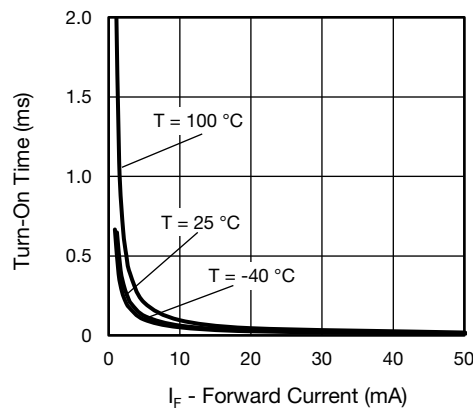

Fig. 4 - Dependency of Turn-On Times on LED Forward Current
**A:** For some battery powered applications and telecom applications, low turn-on current and slow speed are sufficient. Moderate speed performances are required where power consumption is critical. When every second is essential like in instrumentation applications, high-speed performance as a result of high turn-on current is necessary (Fig. 4). This can be achieved by higher control currents which will speed up the charging of the MOSFET gates.